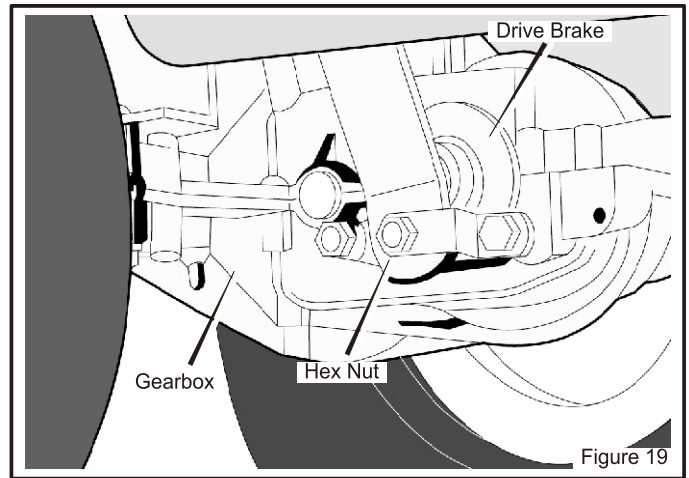

Figure 19
1. The location of the **drive brake** is on the left side of the **gearbox** (Figure 19).
2. Make sure the parking brake is set and the shift lever is in neutral (N). Turn the **hex nut** in a clockwise direction until the rear wheels do not turn when the unit is pushed forward.